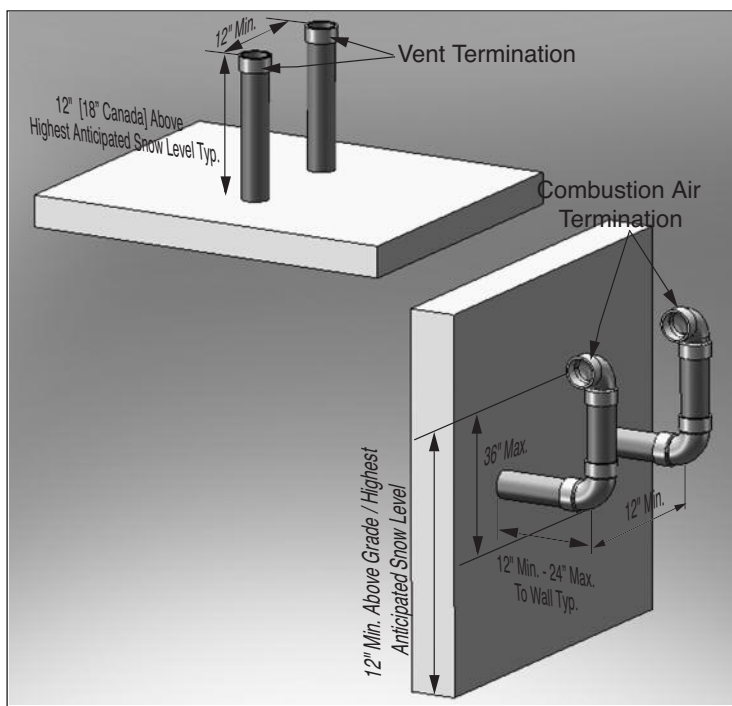

Fig. 22: Direct Vent - Vertical Termination of Vent and Sidewall Termination of Combustion Air of Multiple Boilers
2. Each vent and combustion air termination must be a minimum 12" from the adjacent termination for installations in the U.S. as shown in Fig. 22. For installations in Canada, provide clearances as required by CSA B149.1 or 149.2.